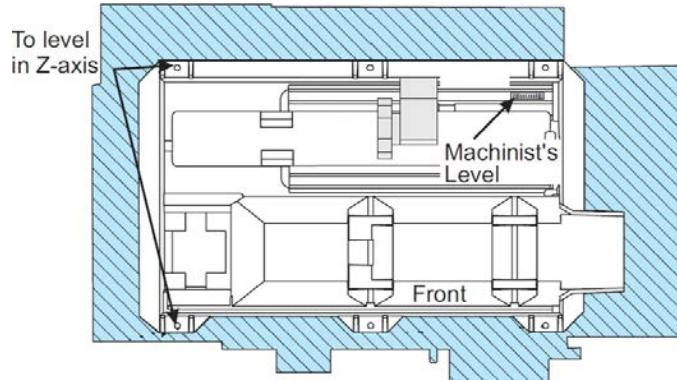

Figure 2
4. Place a machinist's level on the back right Z-axis linear guide (See figure 2).